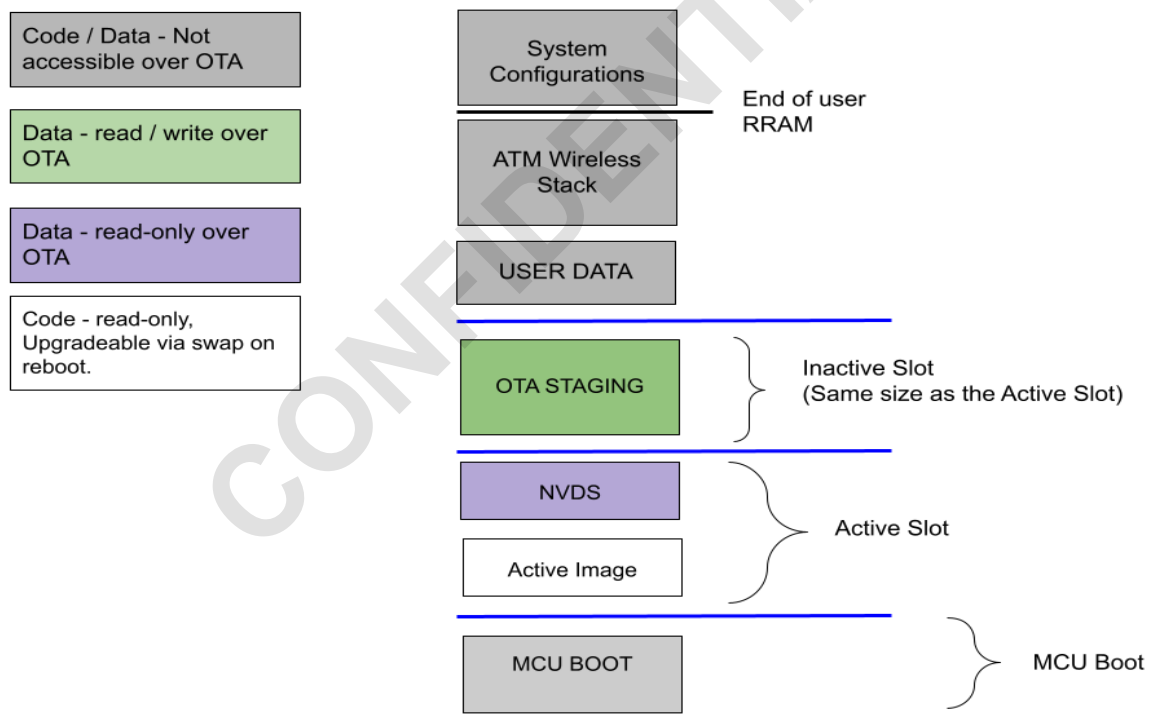

Figure 2 -RRAM Subsystem Block Diagram
- Figure 2 - RRAM Subsystem Block Diagram
The RRAM subsystem is divided into areas containing code and data as shown in Figure 2: